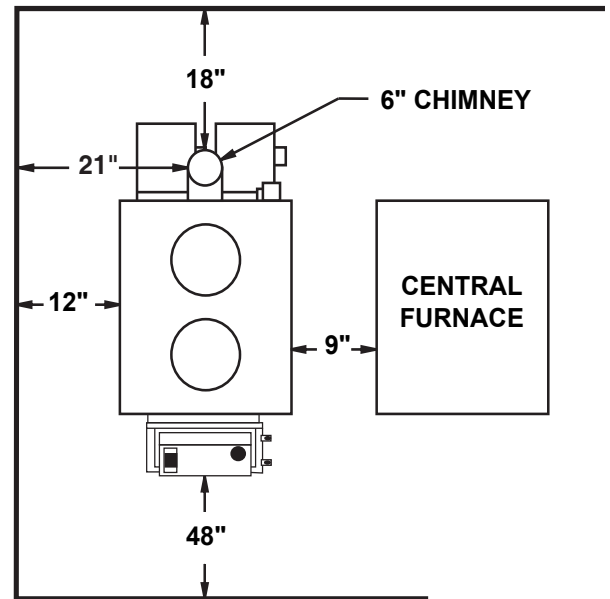

Figure 4
1. The furnace should be located in the same room as the central system and as close as possible, but not closer than 9". There should be no wall between the furnace and the warm air outlet duct that is connected directly to the warm air outlet plenum of the central furnace. (See Fig. 4)